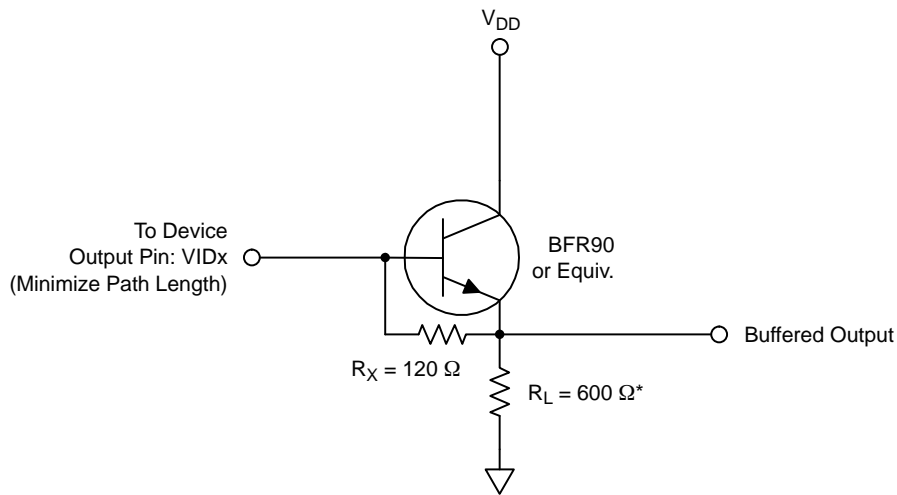

Figure 23. Typical Output Bias/Buffer Circuit
1. A current sink must be supplied for each output. Load capacitance should be minimized so as not to limit bandwidth. The values of R_X and R_L should be chosen to optimize for a given operating frequency, but, R_X should not be less than 75 Ω . The values shown in Figure 23 below represent one possible solution.